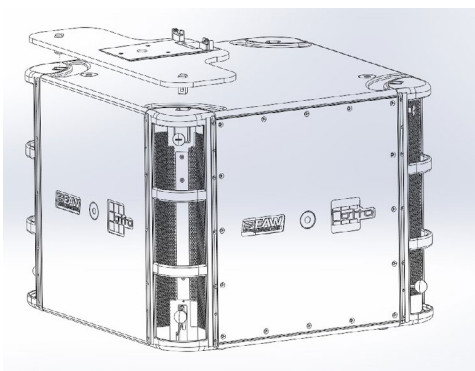

Figure 7 - Attach OTTO Plate
4. Attach OTTO Mount Plate (E) to the top of OTTO subwoofer (Figure 7)
- No additional mounting hardware is needed than plate (E)